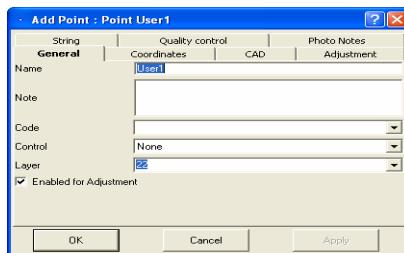

Figure 5-20. Add Point Dialog Box
2. On the *Add Point* dialog box (Figure 5-20 on page 5-23) the user can correct the point name (by default “User n” where n-number), the coordinates in the coordinate system set for the current job, enter a code, string, control codes, note and set a control. Click **OK**.